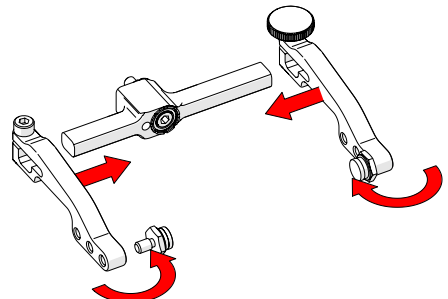

Fig. 81 - Attach arms & move buttons
5. Place the pivot buttons on the inside of the probe holder arms (Fig. 81) using a 3/8 in wrench (Fig. 34).